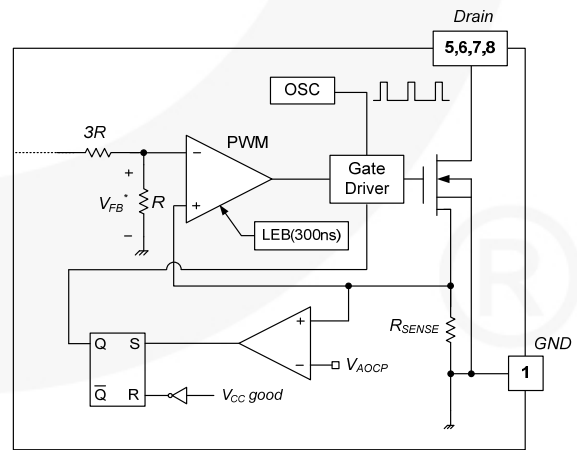

Figure 21. Abnormal Over-Current Protection
4.2 Abnormal Over-Current Protection (AOCP): When the secondary rectifier diodes or the transformer pins are shorted, a steep current with extremely high di/dt can flow through the SenseFET during the minimum turn-on time. Even though the FSL146MRBN has overload protection, it is not enough to protect the FSL146MRBN in that abnormal case; since severe current stress is imposed on the SenseFET until OLP is triggered. The internal AOCP circuit is shown in Figure 21. When the gate turn-on signal is applied to the power SenseFET, the AOCP block is enabled and monitors the current through the sensing resistor. The voltage across the resistor is compared with a preset AOCP level. If the sensing resistor voltage is greater than the AOCP level, the set signal is applied to the S-R latch, resulting in the shutdown of the SMPS.